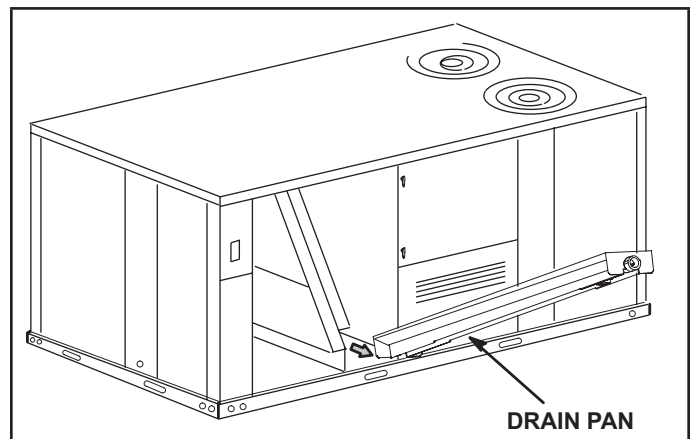

FIGURE 8
- 5 - Lift front edge of the drain pan (to clear bottom drain plug) and slide drain pan out of unit. See FIGURE 8.